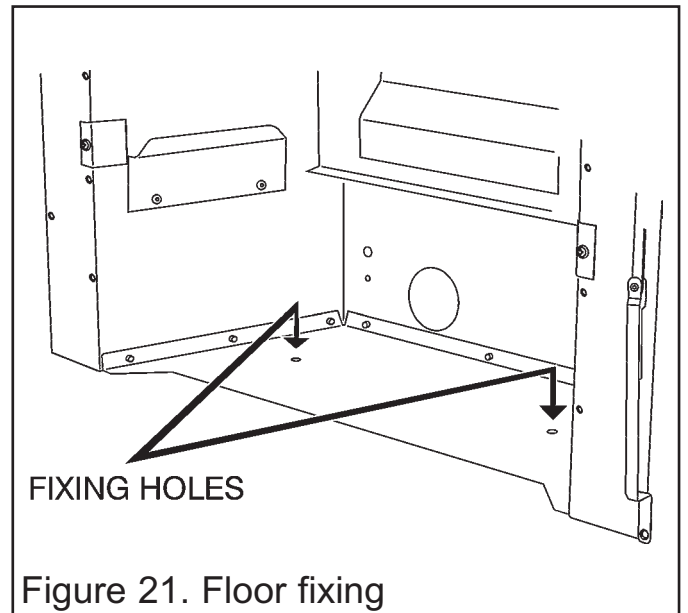

Figure 21. Floor fixing
8. Drill a hole into the fireplace floor through each of the two holes in the base of the convection box using a suitably sized masonry drill for the fibre / wooden plugs supplied (See figure 21).